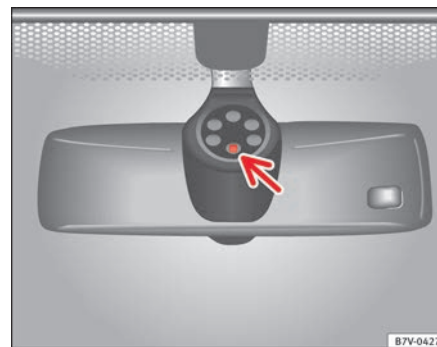

Fig. 70 Rain sensor sensitive surface.
Possible causes of faults and mistaken readings *on the sensitive surface* ⇒ fig. 70 of the rain sensor include:
- Clean the sensitive surface of the rain sensor regularly and check the blades for damage ⇒ fig. 70 (arrow).